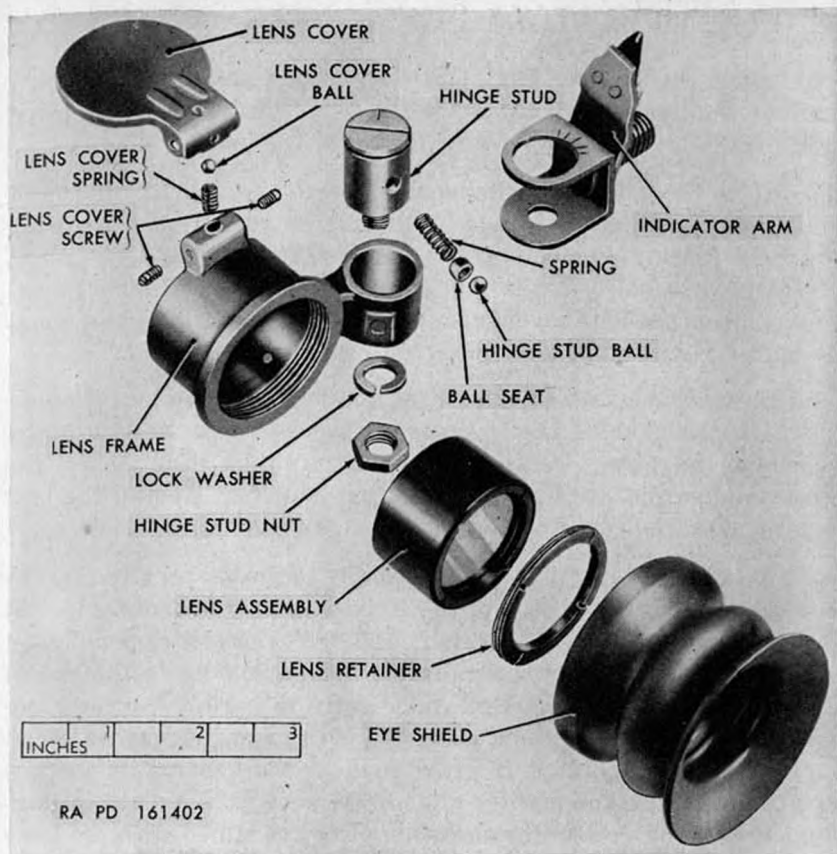

Figure 34. Reflecting sight assembly 7141999—exploded view.
a. Remove hinge stud nut and lock washer (fig. 34). Drive out the hinge stud, by tapping lightly with a hammer and separate the indicator arm from the lens frame. Be careful and do not lose the hinge stud ball, seat, and spring when the hinge stud is tapped out of the lens frame, since these parts are under spring pressure.
a. Insert the lens assembly (fig. 34) in the lens frame and screw the lens retainer in, until it holds the lens tightly. A stud located in the frame insures proper positioning of the lens.